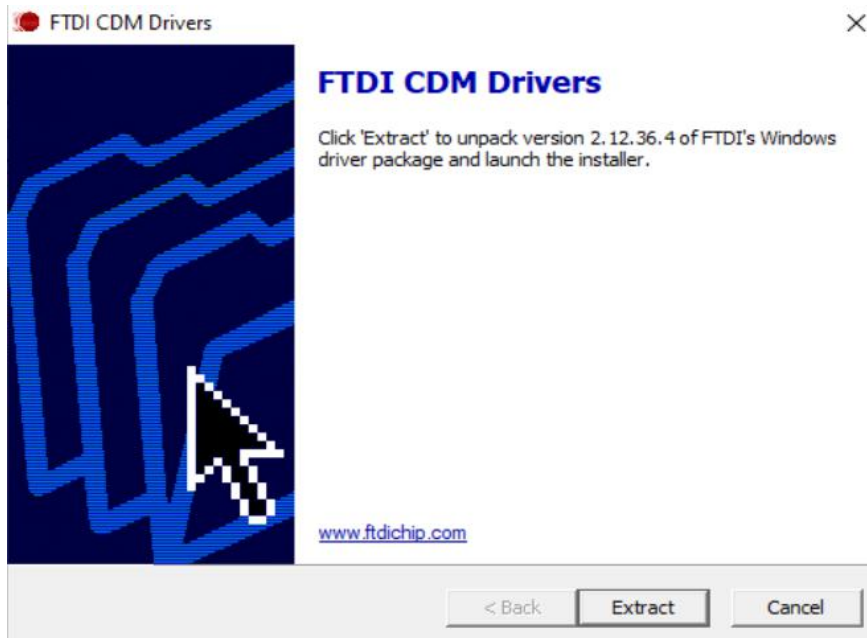

Figure 7-3 Install the serial cable driver
- Double click the “CDM212364_Setup.exe” file to install the serial driver. Click “Extract” during the installation process. As shown in Figure 7-3.